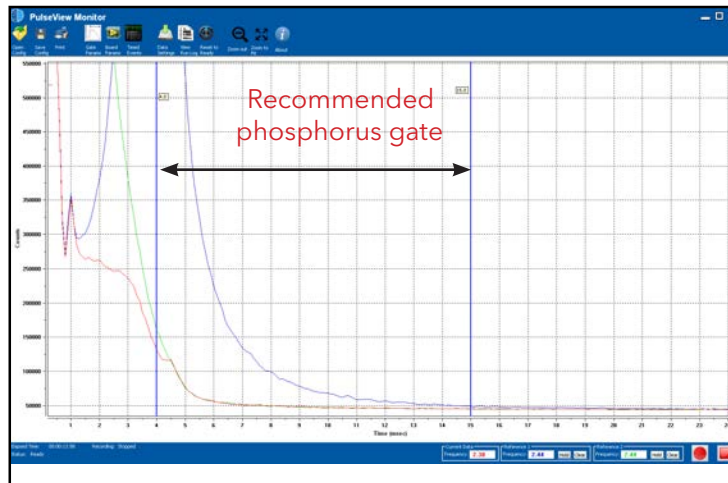

Figure 6.4. Phosphorus Emission and Gate Settings for Maximizing Phosphorus (The PMT Voltage Was Set to 400 V)
3. Delay the gate A start time relative to that shown in Figure 6.4 to increase selectivity between the phosphorus and hydrocarbon emissions (i.e., increase the gate A **Start Time** in the Gate Parameters screen to 4–6 ms or more), minimizing hydrocarbon and phosphorus response overlap.